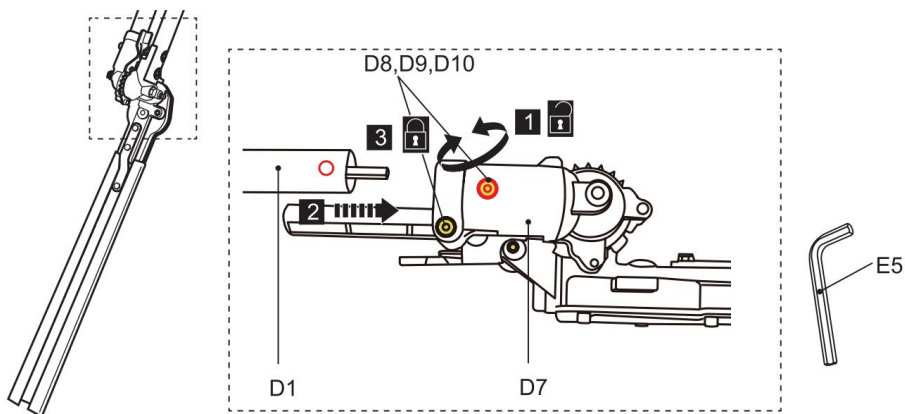

Fig. 20
1) Loosen the bolts (D8) using tool (E5) until the lower pole (D1) can be inserted into the support (D7) (Fig. 20, step 1). Do not remove the bolts (D8), spring washers (D9) and washers (D10) from the support (D7).
2) Align and insert the lower pole (D1) into the support (D7) with a twist motion all the way to the stop until the mounting hole is aligned with the bolt. Use the arrow marking to help the alignment. (Fig. 20, step 2).
3) Tighten the bolts (D8) to secure the lower pole in position (Fig. 20, step 3).